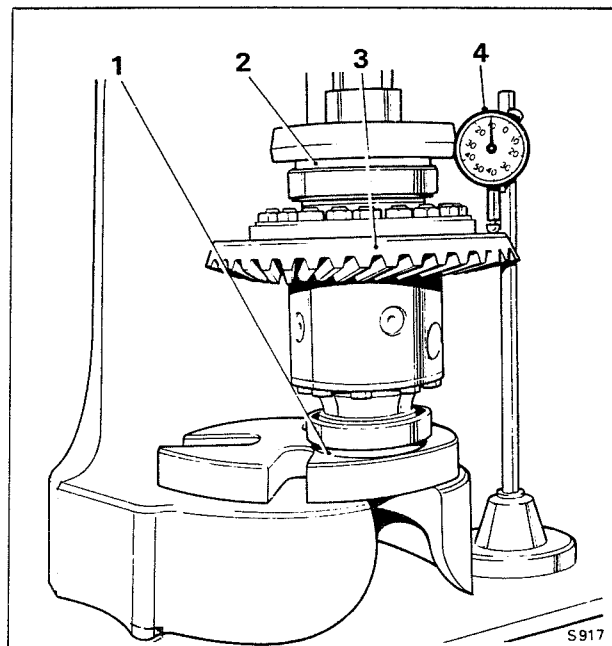

Fig. J6m Checking the crown wheel
13. Place the roller bearing outer tracks in position and stand the assembly on one end. Position the assembly in a press with one adjusting washer fitted to each bearing (see Fig. J6m).